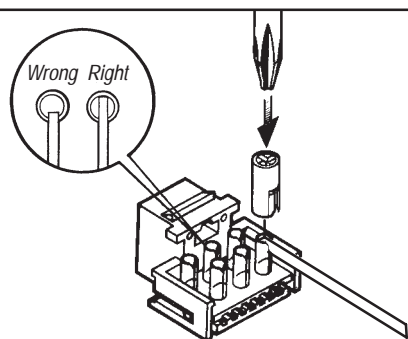

Figure 9
- Hold wire in "V" at top of terminal with wire end touching inside back of terminal. Orient slot in stuffer cap above wire and slide cap down over terminal and wire. Terminate wire by pushing cap straight down with a No. 1 phillips screwdriver until cap is fully seated on terminal (Figure 9).
Strip cable jacket to dimension shown in Figure 11. Make crossovers as indicated. Terminate each wire as shown in Figure 9.